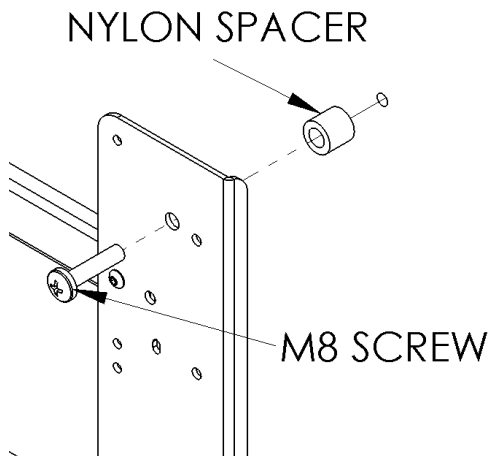
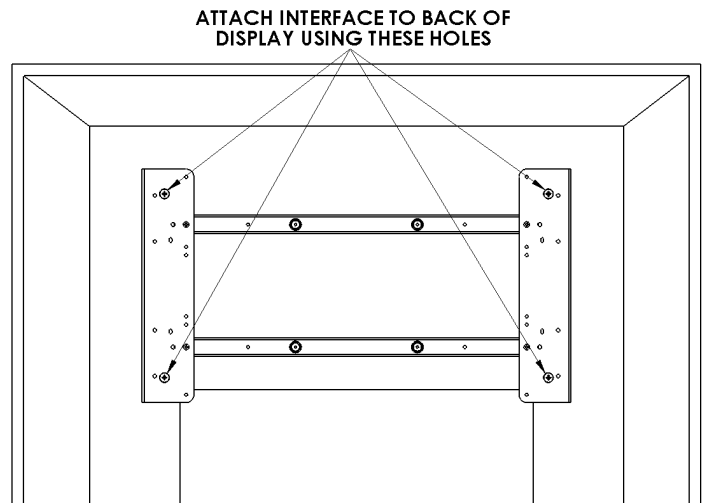

Figure 6
Figure 7
- Place nylon spacers over the mounting holes on back of screen. Attach mounting brackets to display using the M8 screws (See Figure 6 & Figure 7).